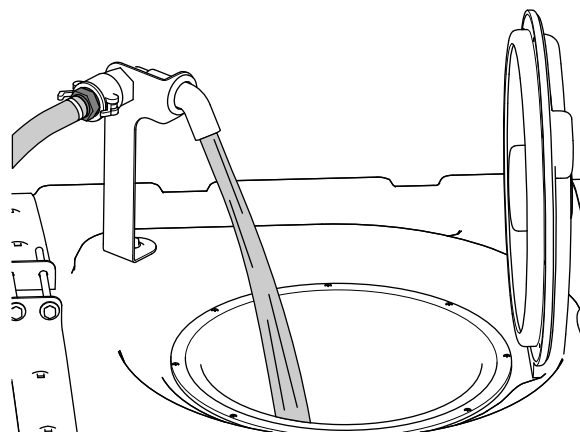

Figure 32
5. Add 3/4 of the required water to the spray tank (Figure 32).